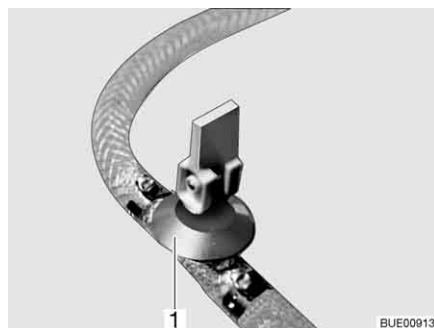

Fig. 202 Drain cock
- Close the drain cock(s). Position the rocking lever (Fig. 202,1) horizontally.
- Open drain cock(s) (Fig. 202). To do so, set the rocking lever (Fig. 202,1) in a vertical position. The boiler is drained to the outside.